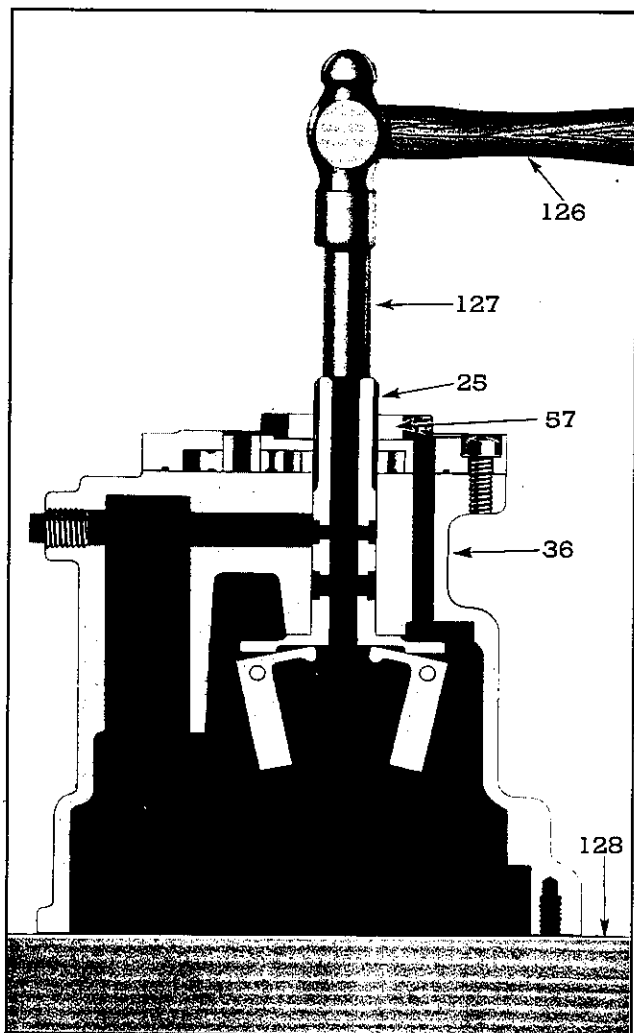

Fig. 42—Separating Ballhead Drive Shaft from Drive Shaft Collar.
16. Set governor case, top side down, on bench and with a soft hammer and a brass rod, drive the shaft of the ball head (25) out of the drive shaft collar (57) (as shown in Fig. 42) and remove ball head and collar from case.
17. Remove three fillister head screws (62) holding base (29) (oil pump gear housing) to governor case. Base is doweled to governor case and